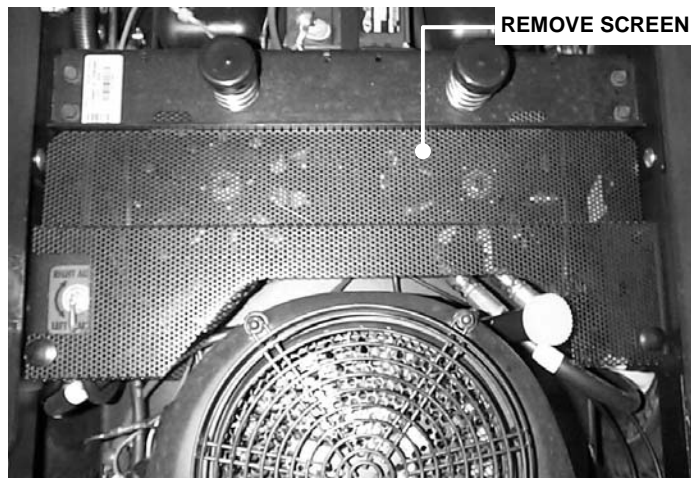

FIGURE 5.1
4. Remove cover screen to expose top of hydro pumps and linkages. See Figure 5.1.